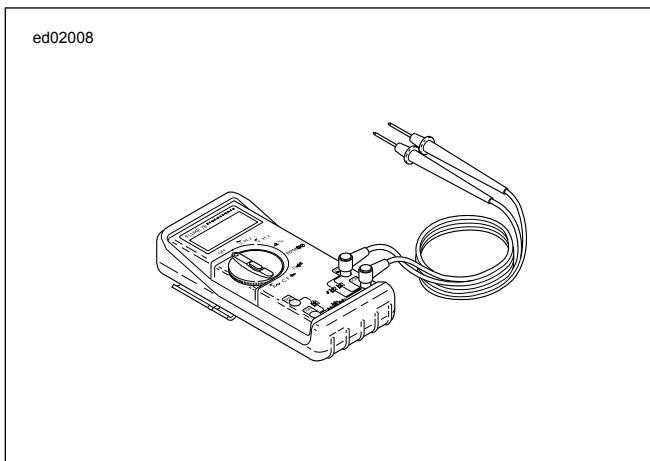

Figure 1-17. Digital Multimeter (Fluke 78)
- See Figure 1-17. Connect DIGITAL MULTIMETER \(FLUKE 78\) \(PART NUMBER: HD-39978\) to wiring harness between suspect connections. When diagnosing ECM connections, use BREAKOUT BOX \(PART NUMBER: HD-50390-1\), ECM CABLE \(PART NUMBER: HD-50390-4\) and ECM OVERLAY \(PART NUMBER: HD-50390-4-P\) to simplify the procedure. See DIAGNOSTIC TOOLS \(Page 1-18\).